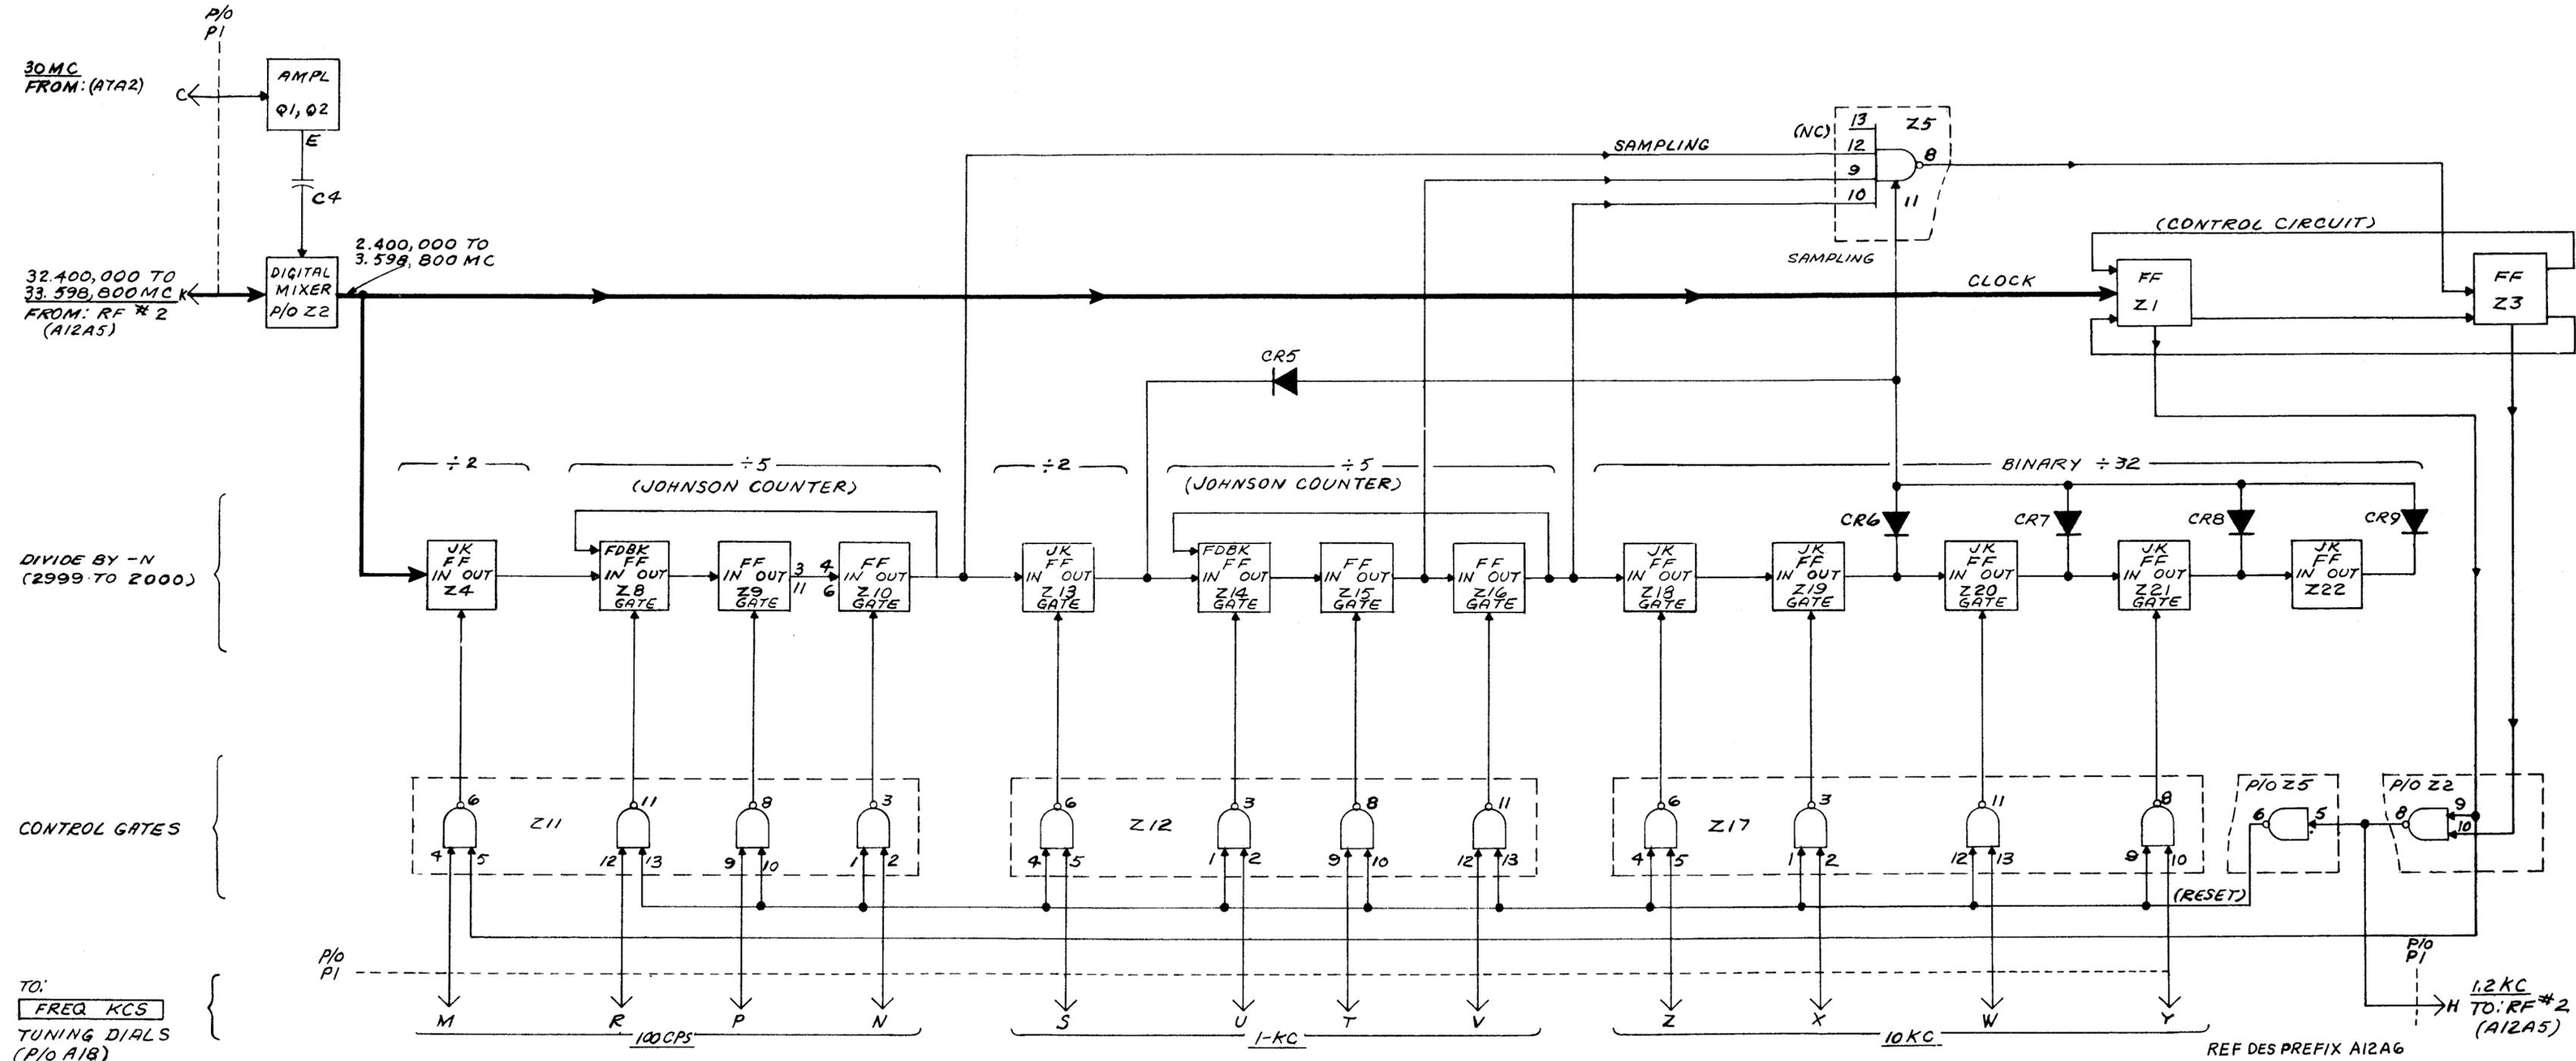

Figure 4-24. Digital No. 3 Card, Simplified Block Diagram
4-21. DIGITAL NO. 3 CARD A12A6. (See figures 4-24 and 4-25.)
(1) DIGITAL MIXER. (See figures 4-24 and 5-78.) - The digital mixer consists of three of the four sections of the dual-input NAND quad gate Z2. The 32,400,000 to 33,598,800 mc frequency range supplied from rf no. 2 card A12A5 is applied to gate input Z2-4, and a fixed 30 mc frequency from the emitter of input amplifier Q2 is applied at the other gate input, Z2-5. Gate output at Z2-6 occurs whenever the two input frequencies coincide over the difference frequency range from 2,400,000 to 3,598,800 mc. Gate sections Z2-3 and Z2-11 function as buffer amplifiers, and output from gate Z2-11 is applied to the divide-by-N counter input at Z4, and to control circuit Z1 and Z2.
(2) DIVIDE-BY-N VARIABLE FREQUENCY DIVIDER. (See figures 4-24 and 5-78.) - The divide-by-N digital counter (frequency divider) has a selectable division range from 2999 to 2000, in unit steps. It consists of thirteen gated flip-flop modules (Z4, Z8 through Z10, Z13 through Z16, and Z18 through Z22, inclusive); dual-input quad NAND gates Z11, Z12, and Z17; and five-input dual NAND gate Z5. The digital counter is programmed by setting the 10 kc, 1 kc, and 100 cycle FREQUENCY KC tuning dials on the exciter front panel. During counter operation, each pulse of the 2,400,000 to 3,598,800 mc input pulse train to Z4 decreases the preset division factor by one count, until a 1.2 kc output pulse is produced from gate Z2-8 to reset the counter and repeat the countdown. For example, when the input frequency is 2,400,000 mc, a 1.2 kc output frequency represents division by a factor of 2000; and when the input frequency is 3,598,800 mc, a 1.2 kc output appears following division by a factor of 2999.